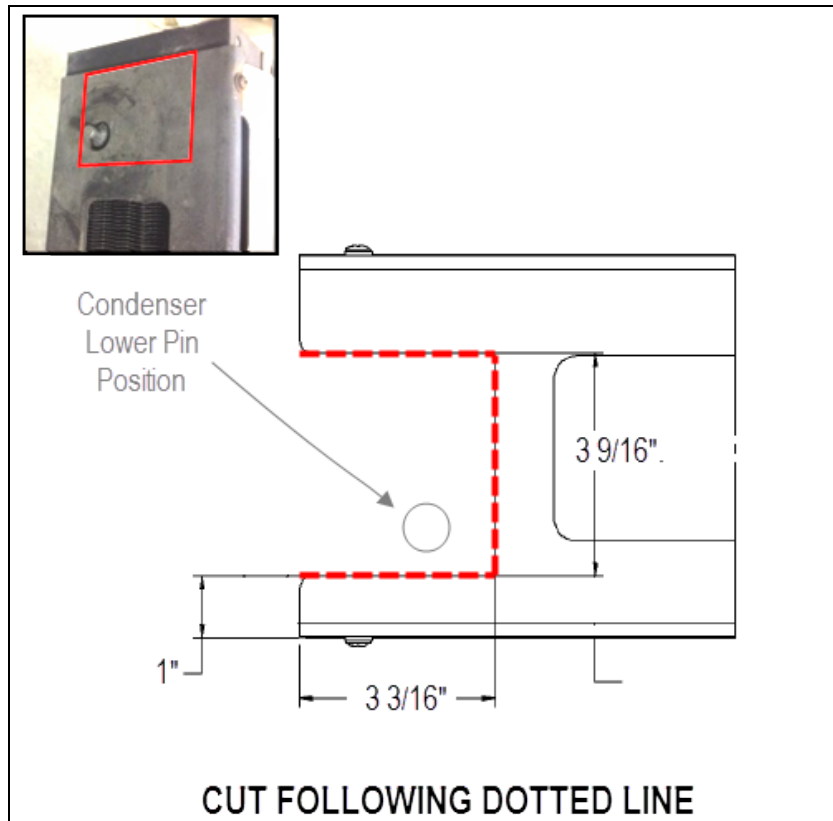

Fig.19
14. With the plastic slider on a bench, cut the left end (pivot pin side) following the picture below (Fig.19).